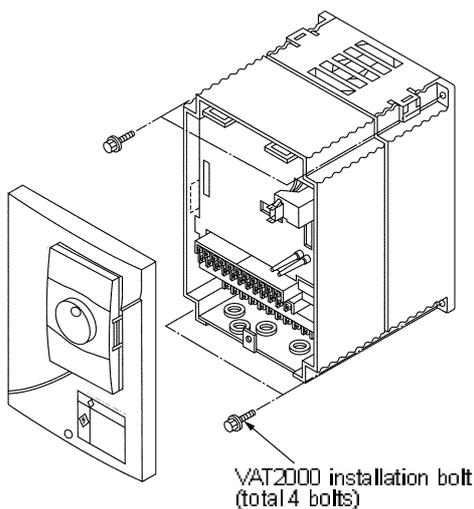

Fig 2.2
(1) N15K0, X18K5 and smaller (Fig. 2.2)